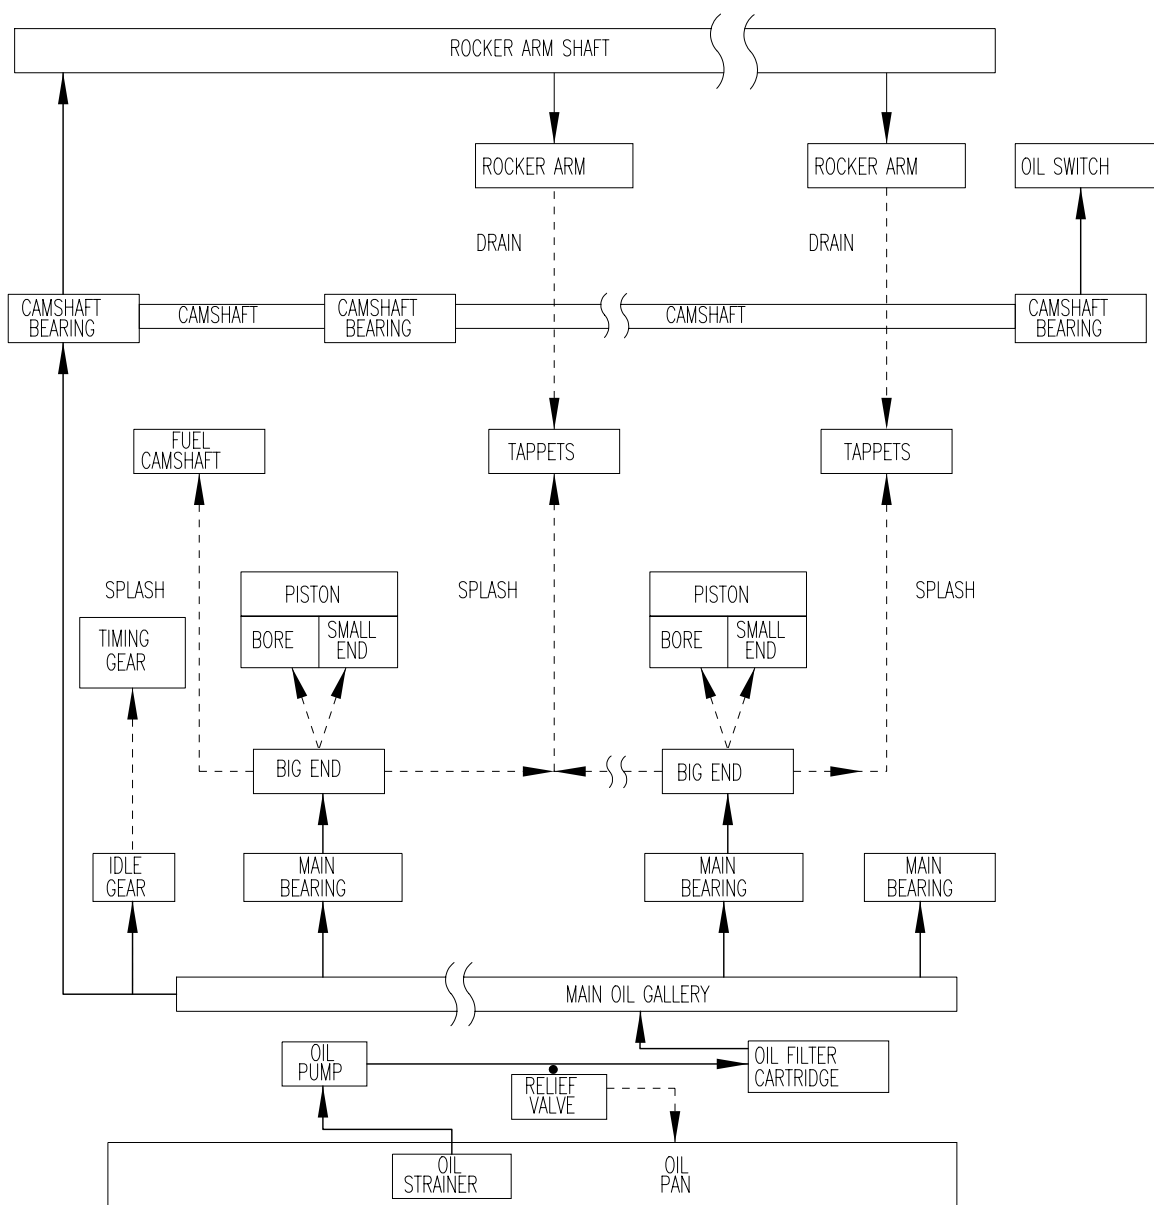

Figure 1-4. Lubrication System
1.16.2. Lubrication System. The engine's lubricating system (Figure 1-4) consists of an oil strainer, oil pump, relief valve, oil filter cartridge, oil cooler, and low oil pressure switch. The oil pump forces lubricating oil from the oil pan through the oil strainer and to the oil filter where it is further filtered. The oil is then forced to the crankshaft, connecting rods, idle gear, camshaft and rocker arm shaft to lubricate each part. Pistons, cylinders, small ends of connecting rods, tappets, pushrods, inlet valves, exhaust valves, and timing gear are lubricated by oil splashed by the crankshaft or leaking from lubricated parts. The relief valve prevents damage to the lubricating system when pressure becomes too high. When the oil pressure, forced by the pump becomes too high, the oil pushes back the ball in the valve and escapes into the pan. The lubricating oil, force fed by the pump, brings back particles of dirt and grit to the oil filter element in the filter cartridge. When the element accumulates an excessive amount of dirt, building up the oil pressure, a bypass valve in the filter opens to allow the oil to flow from the inlet into the outlet line, bypassing the filter element. The low oil pressure switch, mounted on the engine block, is open when the oil pressure is 7 psi (48.26 kPa) or greater. When the oil pressure falls below 7 psi (48.26 kPa), the switch closes, illuminating a warning light on the APU controller.